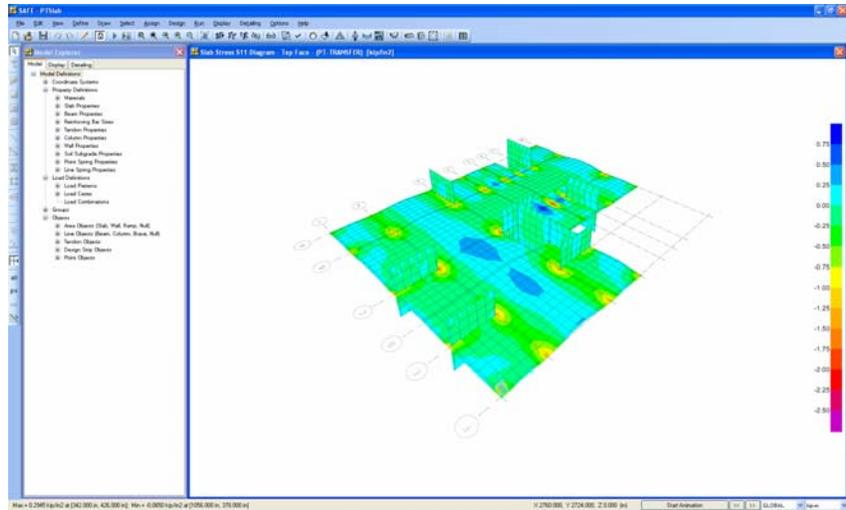

Figure 89 S11 Stress Diagram
- N. Click the **OK** button to generate the moment diagram shown in Figure 89.